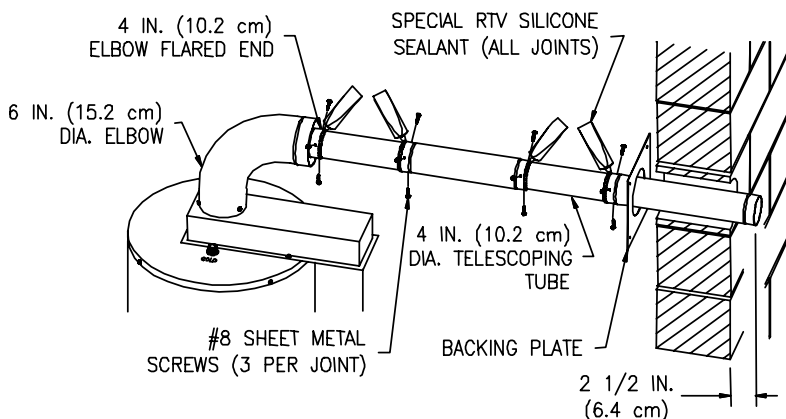
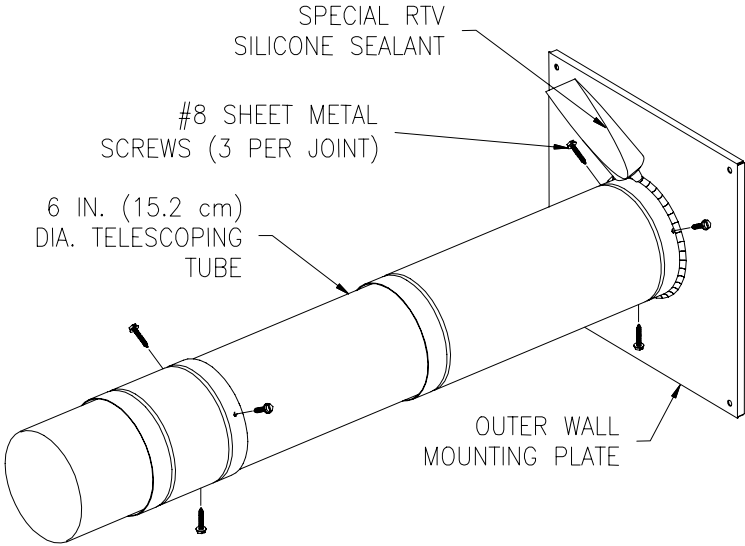

Figure 14c
Figure 15b
Extend the four (4) inch (10.2 cm) diameter telescopic tubes to their maximum lengths. Join the tubes by inserting the small end of a tube into the large end of another, one (1) inch (2.5 cm) (*or until seated*). With a 1/8 inch (3.2 mm) diameter drill bit (not supplied), drill three (3) holes, 120° apart, through each joint where the four (4) inch (10.2 cm) diameter telescopic tubes are joined. At this time, DO NOT drill holes where the small and large sections of the four (4) inch (10.2 cm) telescopic tubes overlap. Fasten each joint with three (3) #8 sheet metal screws (supplied). (See Figure 15b). Slide the backing plate over the joined four (4) inch (10.2 cm) diameter telescopic tubes. Place the large end of the joined four (4) inch (10.2 cm) diameter telescopic tubes through the hole in the outside wall. Insert the smaller end of the joined four (4) inch diameter (10.2 cm) telescopic tubes into the flared end of the four (4) inch (10.2 cm) diameter elbow, one (1) inch (2.5 cm) (*or until seated*). Drill three (3) 1/8 inch (3.2 mm) diameter holes, 120° apart, through the four (4) inch (10.2 cm) diameter elbow into the joined four (4) inch (10.2 cm) diameter telescopic tube(s). Fasten with three (3) #8 sheet metal screws (supplied). Adjust the overall length of the joined four (4) inch (10.2 cm) diameter telescopic tubes so that 2-1/2 inches (6.4 cm) extends beyond the outside wall. Drill three (3) 1/8 inch (3.2 mm) diameter holes, 120° apart, through the joined four (4) inch (10.2 cm) diameter telescopic tubes where the small and large sections overlap. Fasten with three (3) #8 sheet metal screws (supplied). Using the supplied RTV silicone sealant, apply a sufficient amount to seal all joints. (See Figure 14c).